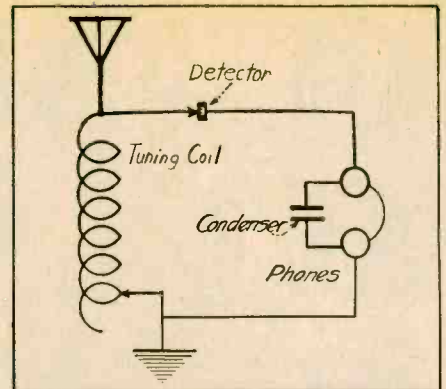

Fig. 1. Minimal crystal receiver tunes only broadly, using the coil slider to tune.
**The Simplest Receiver.** First, in Fig. 1, we see the simplest type of crystal radio receiver. It consists of a tuning coil, a crystal detector, an RF bypass condenser, and a pair of headphones. This receiver will not separate stations well because it tunes very broadly and the loudest station will crowd out the weaker ones.